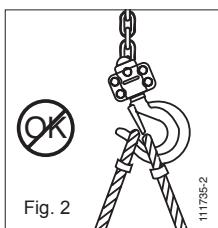

Fig. 2
1. Check that the Bravo™ AC hoist is properly suspended by its suspension hook (item 5, fig. 1) and that the hook safety catch (item 6, fig. 1) is properly closed (see figs 2 and 3).
1. The anchoring accessory of the load sits fully in the hook and does not prevent the catch from closing correctly (see figs. 2 and 3).